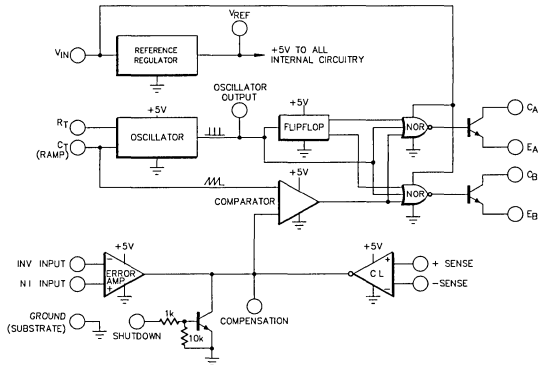
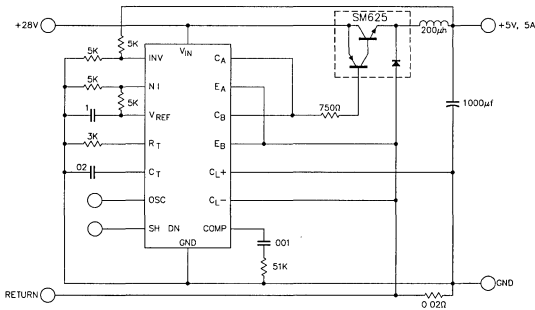

Figure 1. SG1524 Block Diagram
Figure 2. SG1524 Single - Ended Switching Regulator
From the block diagram shown in Figure 1, it can be seen that the SG1524 contains the elements necessary to implement either single-ended switching regulators or DC to DC converters of several different configurations. This device includes a voltage reference, error amplifier, constant frequency oscillator, pulse width modulator, pulse steering logic, dual alternating output switches, and current limiting and shutdown circuitry. Since many of the different types of applications for this IC have been discussed earlier(1) it should suffice to review only two of the more common usages as shown in Figures 2 and 3.
The single-sided regulator of Figure 2 is unique because of its simplicity. This circuit combines an SG1524 with an SM625 hybrid to build a 5 volt, 5amp regulator with all the semiconductor devices contained in only two packages. This circuit has an efficiency of over 70% with an input voltage range of 20 to 30 volts, 0.1% line and load regulation, and some added benefits of constant frequency operation and short circuit protection.